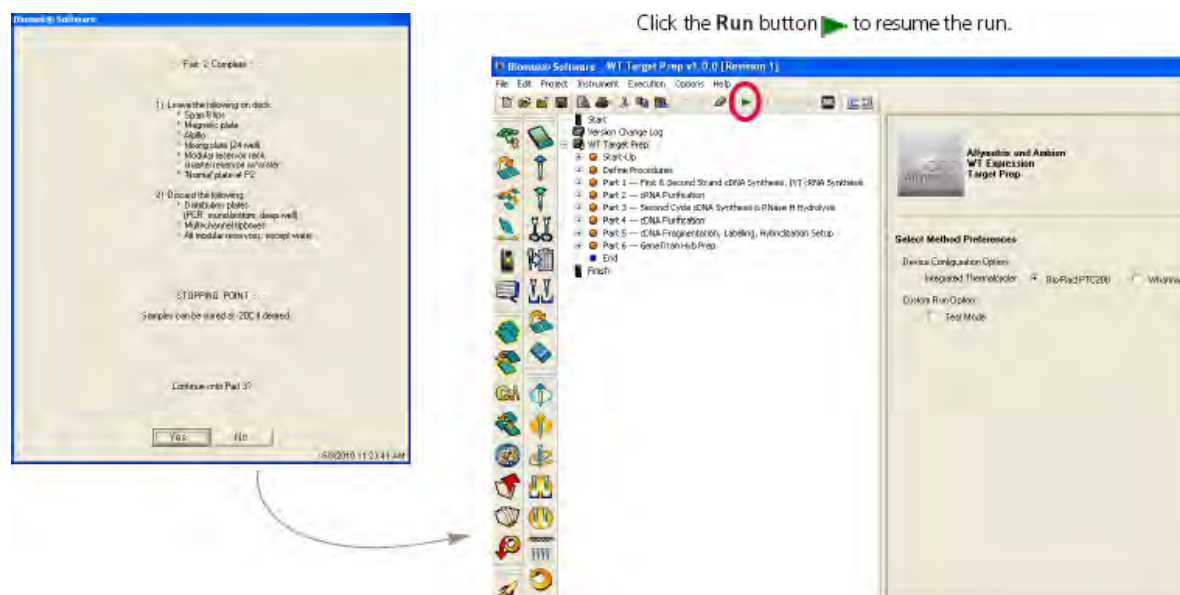

Figure 36 Stopping/resuming the run.
26. If you do not want to continue with Part 3, click **No**. When ready to resume ensure that clean, fresh Span-8 tip boxes are placed on the deck, then click **Run**  in the window that appears (Figure 36).